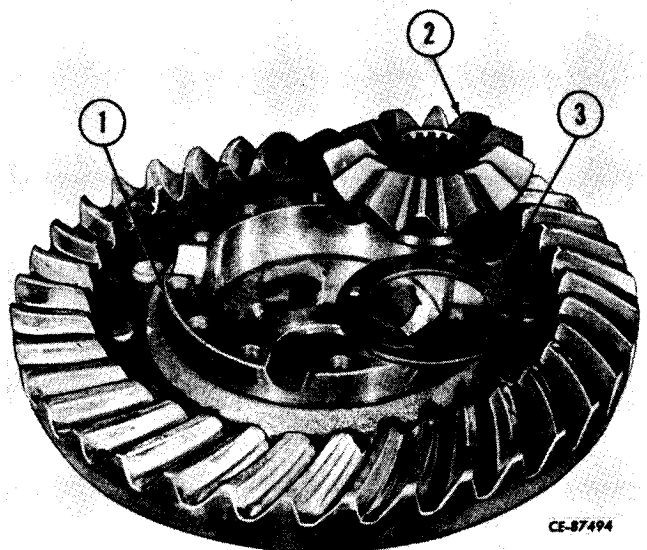

Figure 6-55
Position thrust washer (3, Fig. 6-55) and side gear (2) in ring gear (1) after lubricating parts with new axle lubricant (refer to "LUBRICANTS AND CAPACITIES" under "SERVICE INFORMATION").